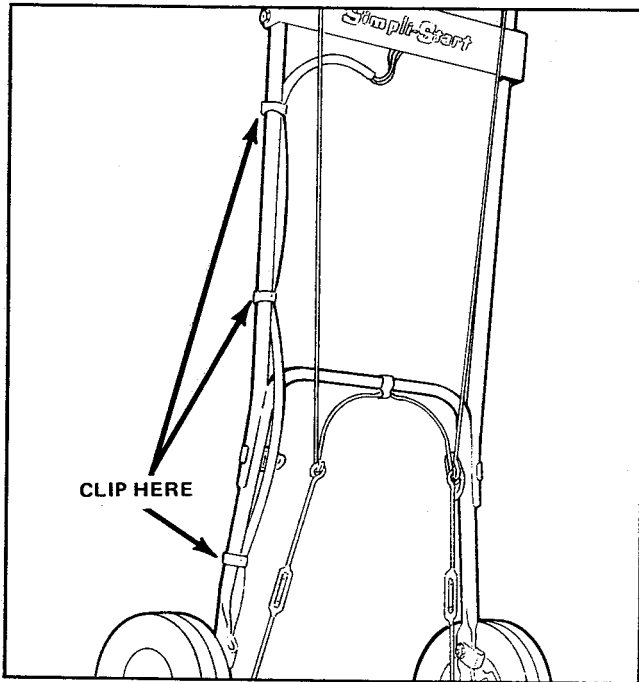

Figure 3. Attaching Harness
1. Attach the wiring harness to the lower and upper handles as shown in figure 3 with the cable clamps provided.